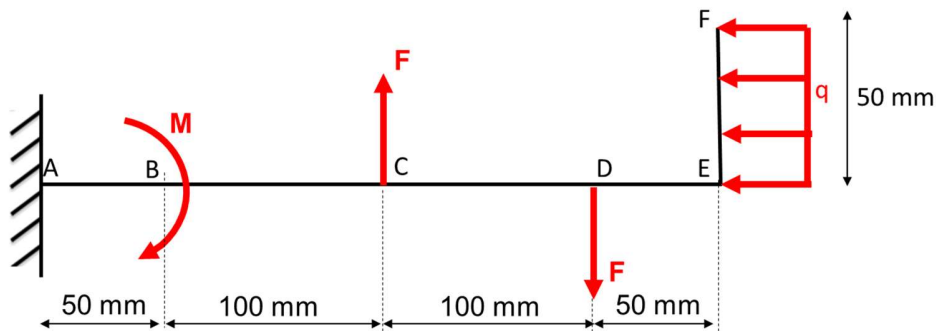

Figure 2: idealization of the beams in Ingenuity (drawing not to scale)
- a) Model the part, shown in figure 2, in Abaqus using B23 elements.